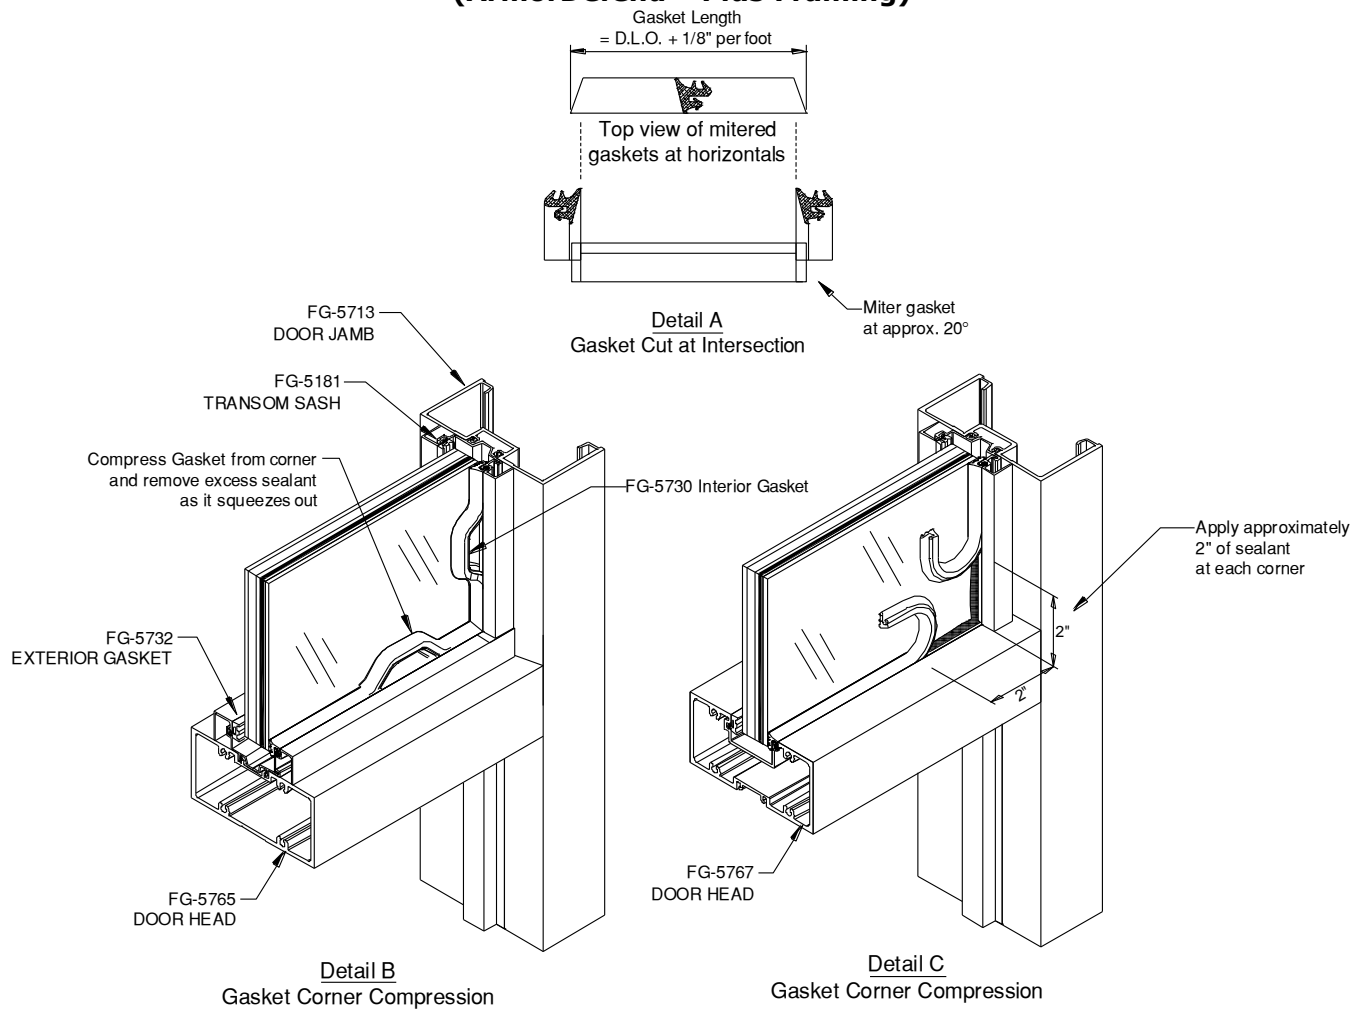

Figure 41: Interior Gasket Installation
11.2.2.5 Cut the **FG-5730** Wedge Gasket a minimum of 1/4" per foot longer than the D.L.O., to provide adequate compression, and miter the ends of the gaskets at a 20° angle, as shown in *Figure 41, Detail A*.
11.2.2.6 Install interior **FG-5730** glazing gaskets. Gasket should be installed in corners and the middle first and then worked into pocket in sections starting at center and moving towards the corners. Reference *Figure 41, Detail B*
11.2.2.8 Apply sealant and push Gasket into reglet, compressing from the corner first, *Figure 41, Detail C*. Clean squeeze out immediately.